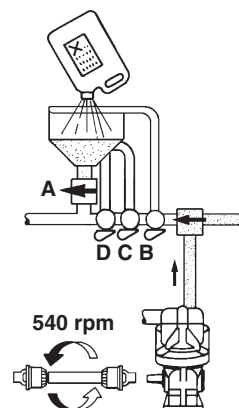

Fig 19
- 3 Turn the blue pressure valve handle towards 'To QUIKMIX Filler'. Check that the bottom valve of the filler (A Fig 19 & A Fig 17) is closed.